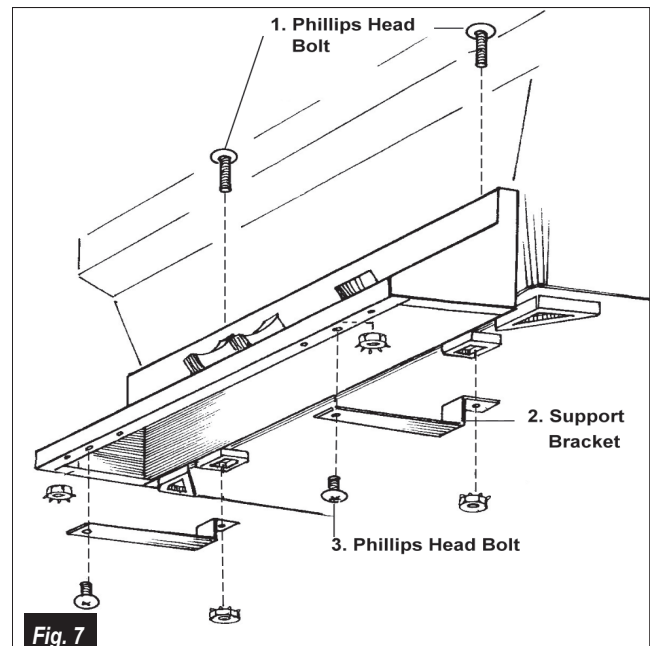

Fig. 7
B. Connecting the Control Panel Support Brackets (Fig. 7)